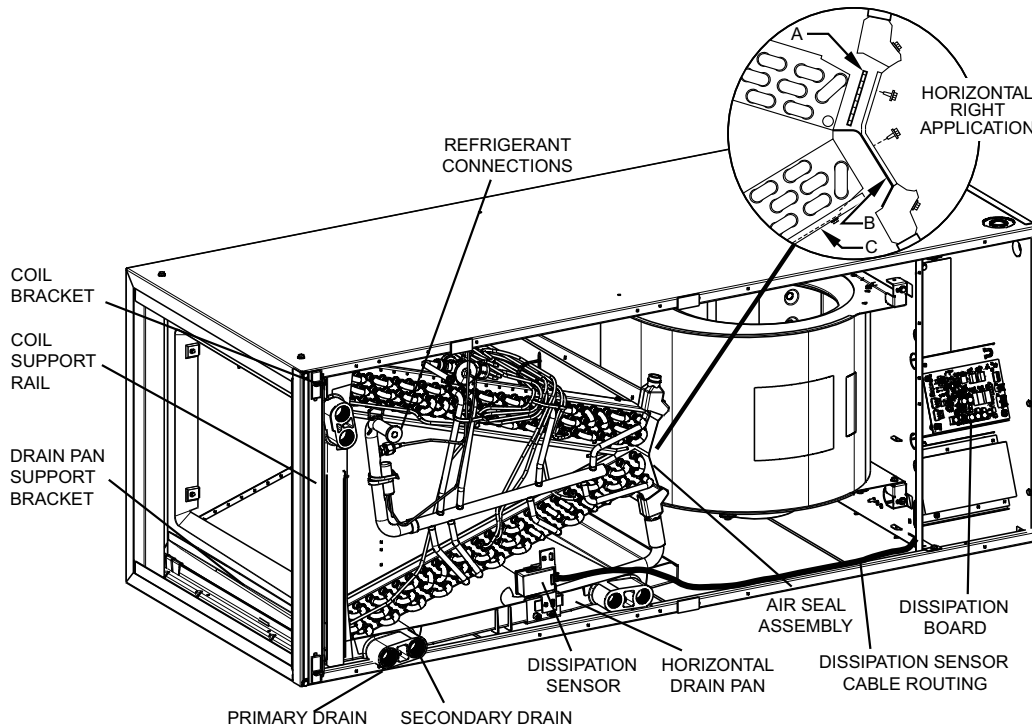

Fig. 7 – A-Coil in Horizontal-Right Application
1. Remove blower and coil access panels (Fig. 7).
- b. Remove air splitter (B) from coil seal assembly by removing 3 screws (Fig. 7 inset).
- c. Remove filler plate (A) and install air splitter (B) in place of filler plate.
- d. Install filler plate (A) as shown in horizontal right application.
- e. Remove condensate troughs (C) and install on opposite tube sheets.
12. Reconnect the sensor wire harness by following the routing shown in Fig. 7.
- b. If fan coil is against wall, secure fan coil to wall stud using 1/8-in. (3mm) thick right-angle brackets. Attach brackets to fan coil using No. 10 self tapping screws and to wall stud using 5/16-in. (8mm) diameter lag screws (Fig. 7).